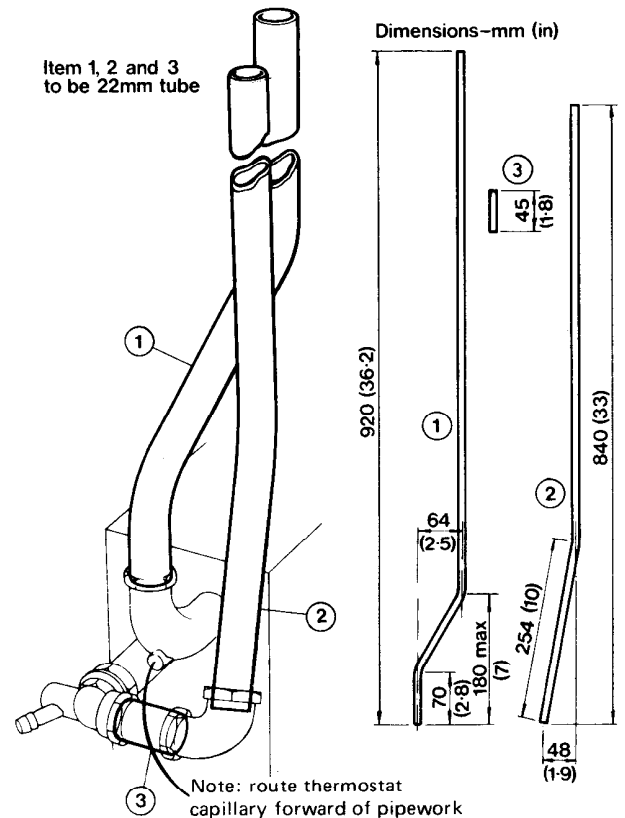

Fig. 4
- (d) Tighten Male Adaptor into 'flow' connection and Male Drain Elbow into 'return' connection of water heater (note position from Fig. 4)
- (e) Pass pipe (1) up through rear holes in fan compartment floor and top of heater and connect to Male Adaptor tighten fully.
- (f) Insert pipe (3) into Drain Elbow and tighten
- (g) Loosely fit elbow to (3). Pass straight end of pipe (2) up through fan compartment floor and top of heater, locate in elbow and tighten all joints.